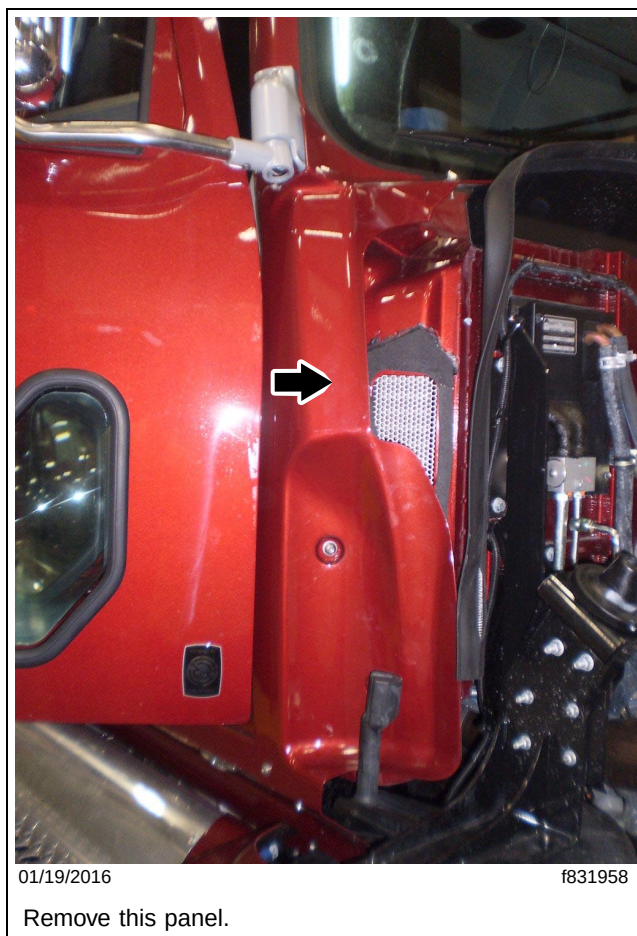

Fig. 1, Right Side Cowl Panel
4. Remove the right side cowl panel to access the HVAC fresh air intake. See **Fig. 1**.